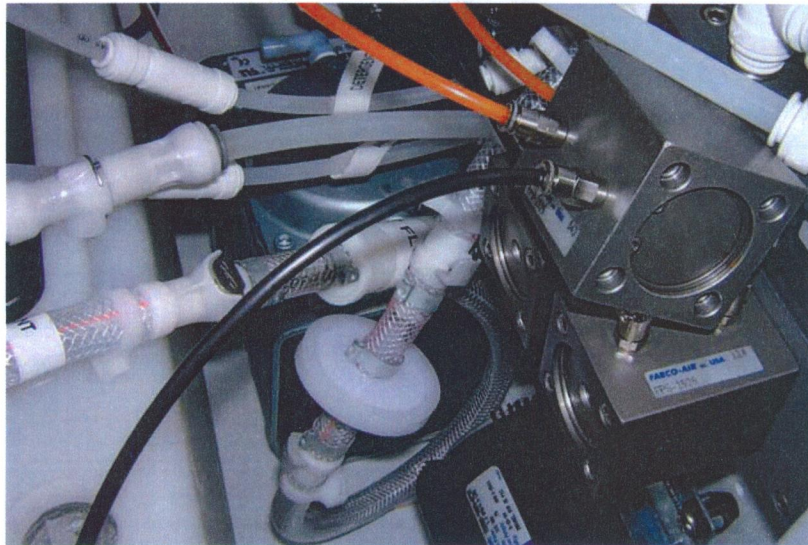

Fig 7a
- Fig 7a & 8 show the valve with the tubing set up to test for air leaks.
- Valve 14 is shown in Fig 7a. This valve is normally “open” on software 3.xx and later. On software ver 2.xx the default setting on power up is “closed”. Fig 7a shows the closed port tubing is placed in the water.